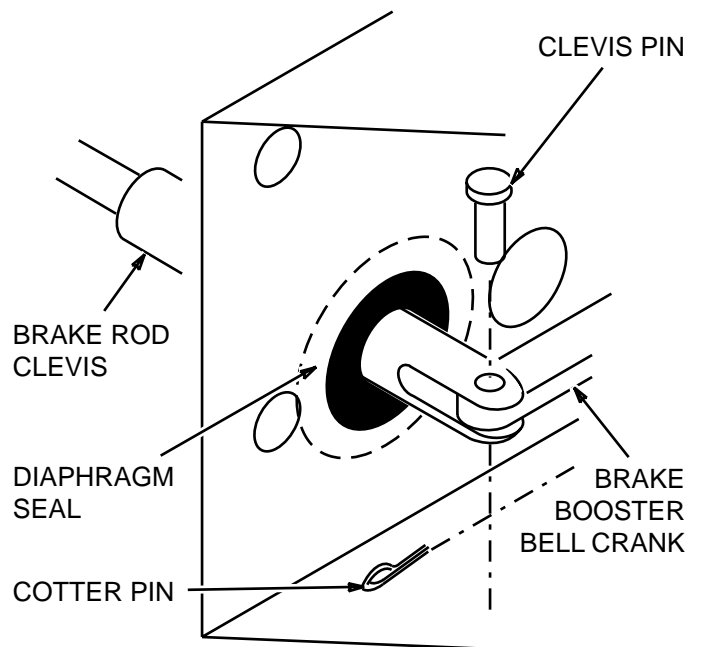

Figure 4
- Install the rubber diaphragm seal over the brake rod clevis. Insert the assembly thru the hole on the fire wall side of the bracket assembly. With the small allen set screw facing down, attach the clevis to the bell crank using the clevis pin. The pin is to be installed with the button head at the top and the cotter pin hole at the bottom. Secure the clevis pin with the cotter pin making sure to wrap the legs of the pin around the clevis pin. See Figure 4.